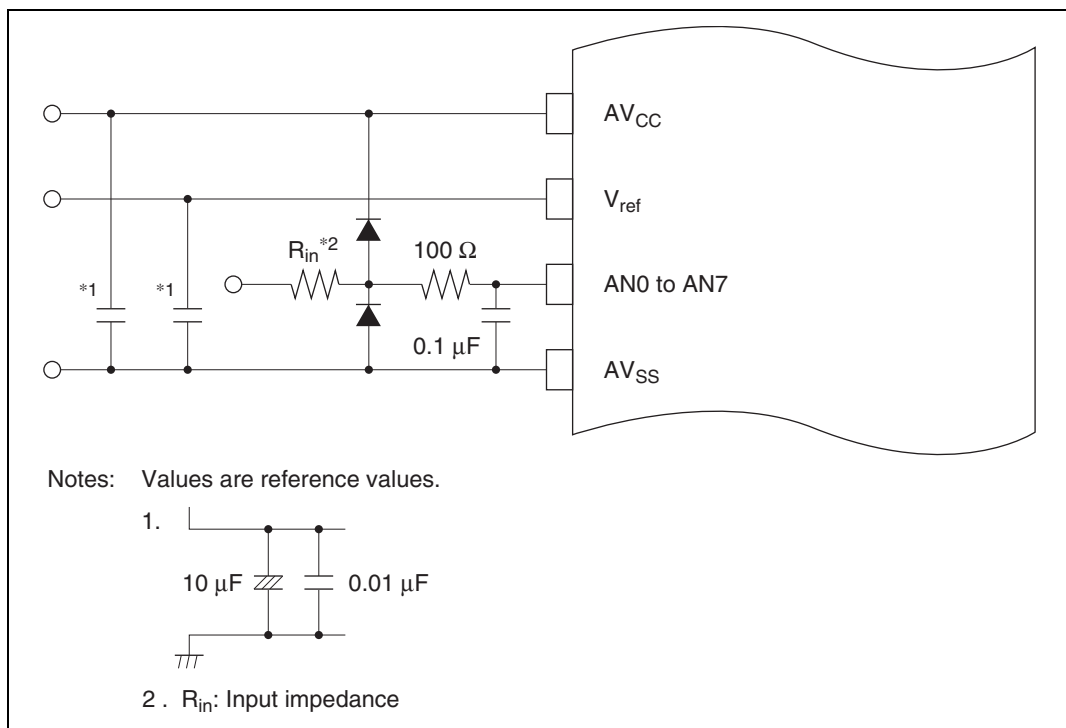

**Figure 14.7 Example of Analog Input Protection Circuit**
**Notes on Noise Countermeasures:** A protection circuit connected to prevent damage due to an abnormal voltage such as an excessive surge at the analog input pins (AN0 to AN7) and analog reference power supply ( $V_{ref}$ ) should be connected between  $AV_{CC}$  and  $AV_{SS}$  as shown in figure 14.7.
If a filter capacitor is connected as shown in figure 14.7, the input currents at the analog input pins (AN0 to AN7) are averaged, and so an error may arise. Also, when A/D conversion is performed